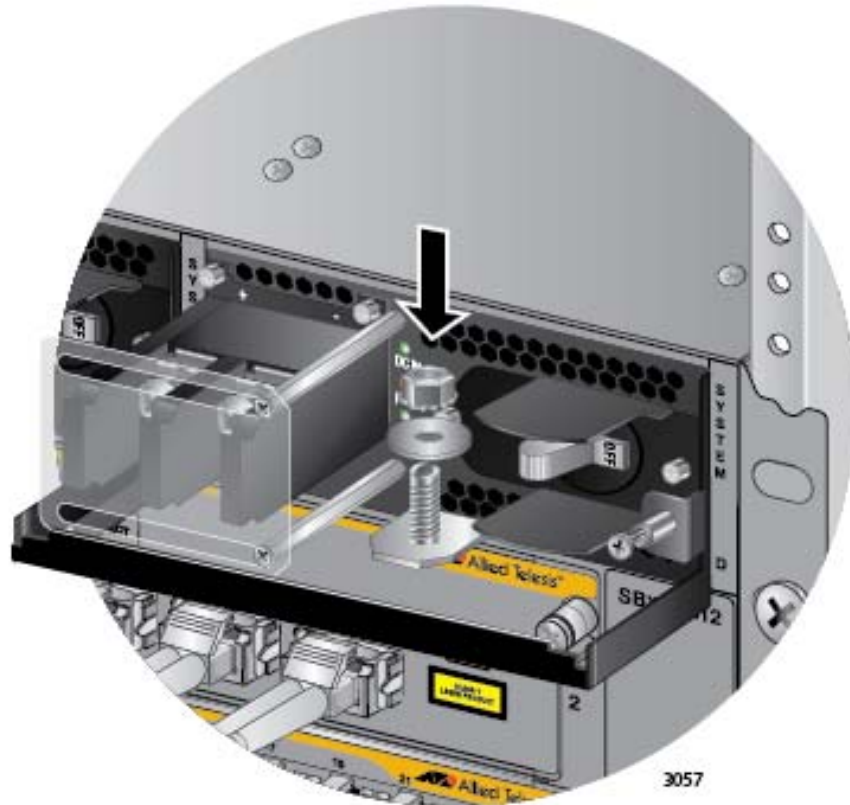

Figure 152. Reinstalling the Nut and Washer on the Grounding Post
10. Reinstall the nut and washer on the grounding post. Refer to Figure 152 on page 234.